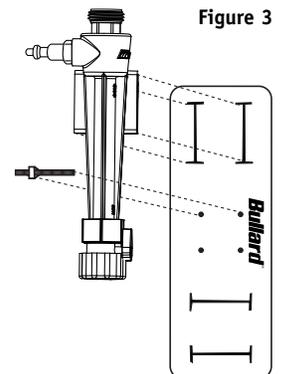

Figure 3
1. Align the tube on the heat shield as shown in **Figure 3**.